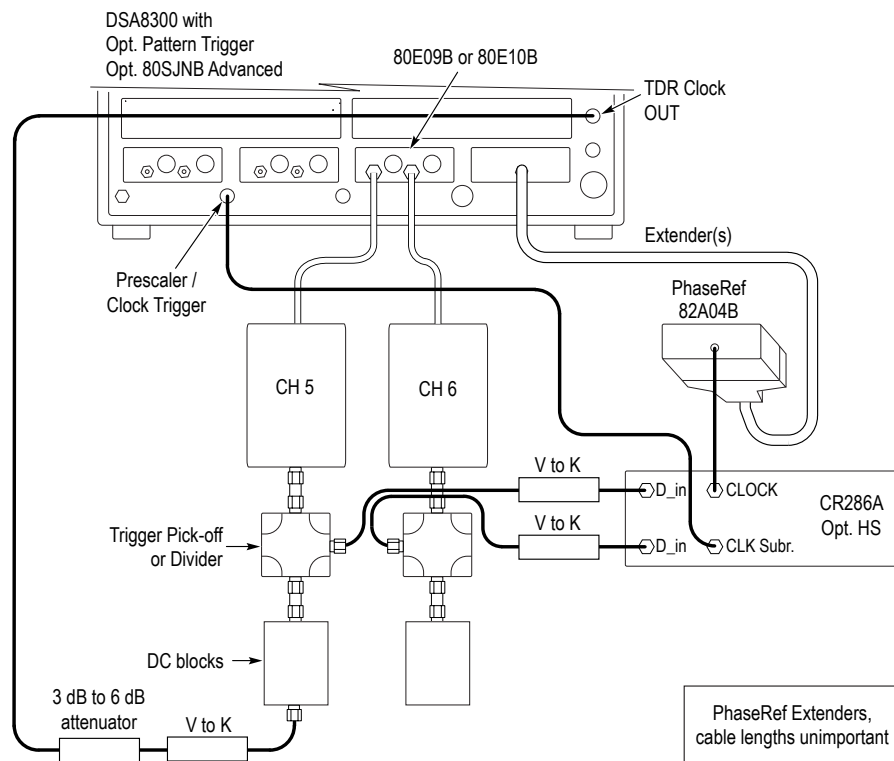

Figure 8. System Setup for Vertical Calibration, step C.
- Connect the input to the Oscilloscope Channel 5 directly⁷ via cable to the “TDR Clock OUT” SMA on the front panel of the oscilloscope. See Figure 8.
⁷ directly; there should be no DC block, no divider or “T”-pick-off. The V-connector (aka 1.85mm connector) to K/SMA adapter should be used as needed; see “Figure 8 System Setup for Vertical Calibration, step A”, and see Annex on Pg. 5.
- Connect the oscilloscope's C5 if the DC Block (if using the DC Block) and with the Trigger Pick-off T (if using the Trigger Pick-off T) as in Figure 8 .